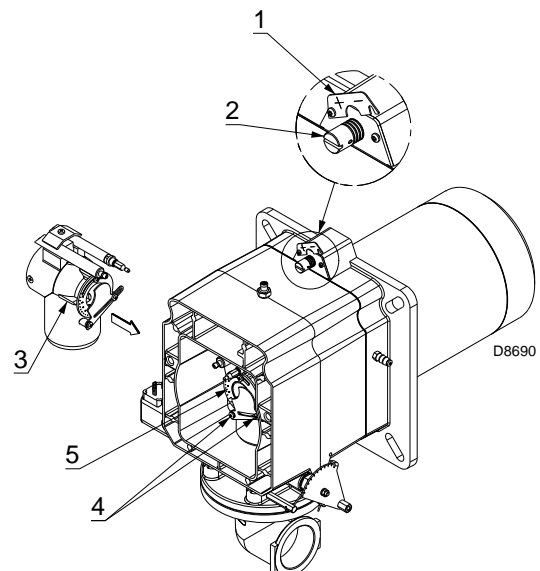

Fig. 15
- rotate the screw 2)(Fig. 15) until the notch you have found corresponds with the front surface 1) of the flange.
To facilitate the adjustment, loosen the screw 3)(Fig. 15); adjust, then lock in place.
- loosen the screws 4) and rotate the ring nut 5)(Fig. 15) until the notch you have found corresponds with the indicator 3);